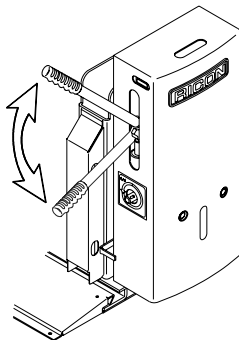

FIGURE 2-17: RAISE PLATFORM
- Refer to **Figure 2-17**. Insert pump handle into pump handle socket. Operate pump